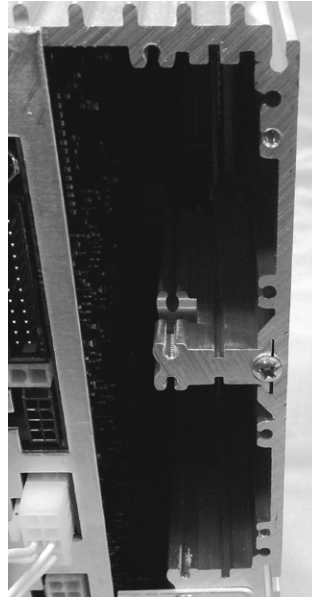

Figure 8. Support bar fully inserted and secured with a screw
- Push the communications base circuit board all the way in using the support bar and secure with the provided screw. See Figure 8.